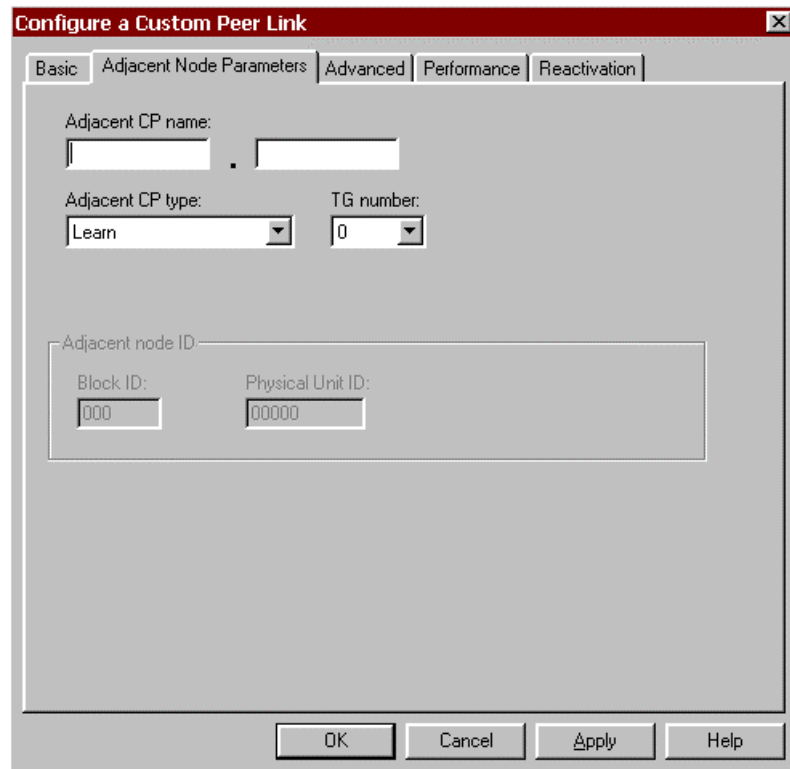

Figure 11-27. Configure a Custom Peer Link - Adjacent Node Parameters
- **Host link name (PU profile name):** A default name will be automatically assigned by the system. You may accept the default, or enter your own name up to eight (8) characters in length.
- **Port name (adapter):** By default the first custom data link adapter defined will be displayed. Select the adapter you wish to associate with this Host Link (PU) from the pull-down list. Keep in mind that the ESCON adapter associates the PU to the sub-channel address used to communicate with the host.
3. Click the **Adjacent Node Parameters** tab (Figure 11-27) to continue.